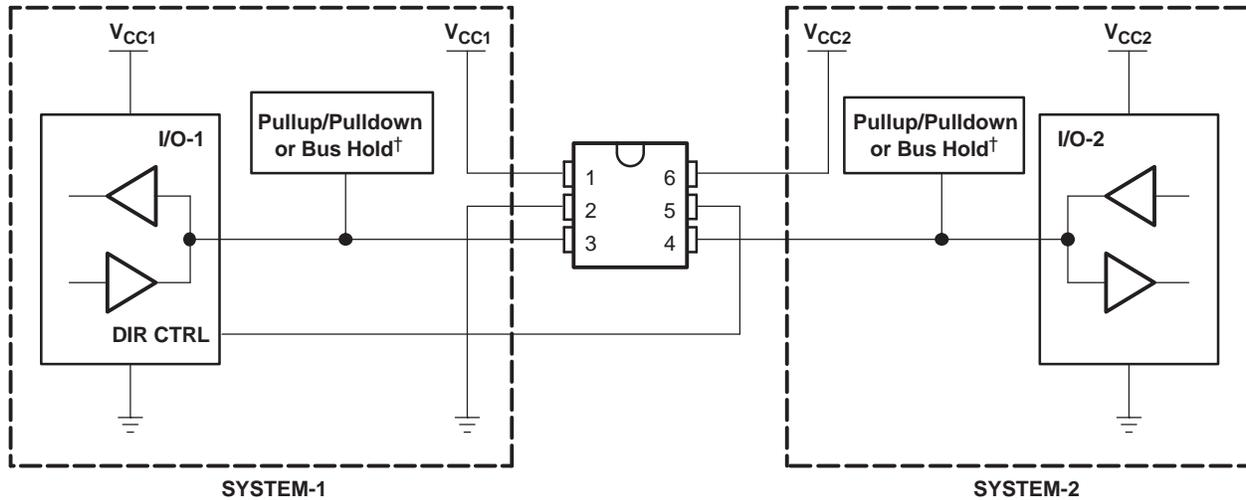

Figure 23. Bidirectional Logic Level-Shifting Application
Figure 23 shows the SN74AXC1T45 being used in a bidirectional logic level-shifting application. Because the SN74AXC1T45 does not have an output-enable (OE) pin, the system designer should take precautions to avoid bus contention between SYSTEM-1 and SYSTEM-2 when changing directions.